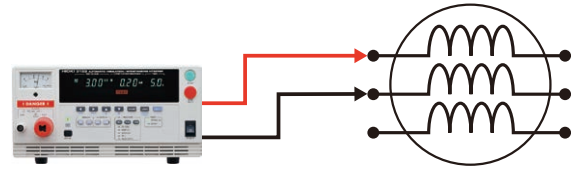

Fig.7 Coil/coil withstand voltage testing before connection to the neutral point
- If the stator has not yet been connected to the neutral point, you can check for partial discharges between coils (Fig. 7).